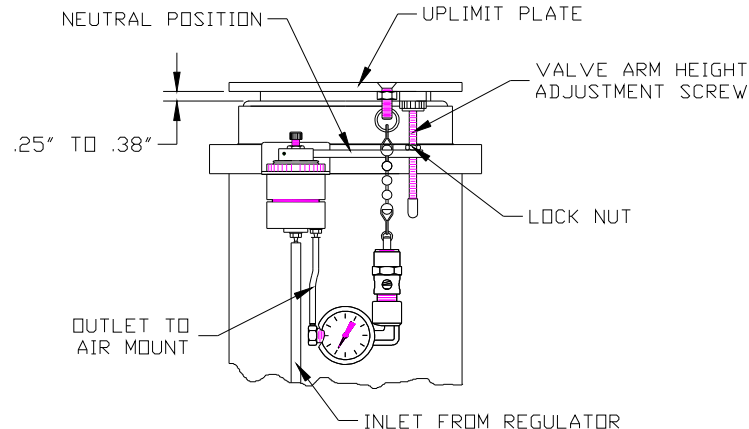

Fig. 4 Valve Adjustment Illustration.
4. Be sure to adjust the VIBRA-LEVEL Valve Arm Adjustment Screw, so that the tip of the screw is touching the bottom surface of the Tabletop, or Uplimit plate as shown in Figure 4, and that each Valve Arm is slightly below horizontal for in the fill position and 10 degree above horizontal for neutral position.